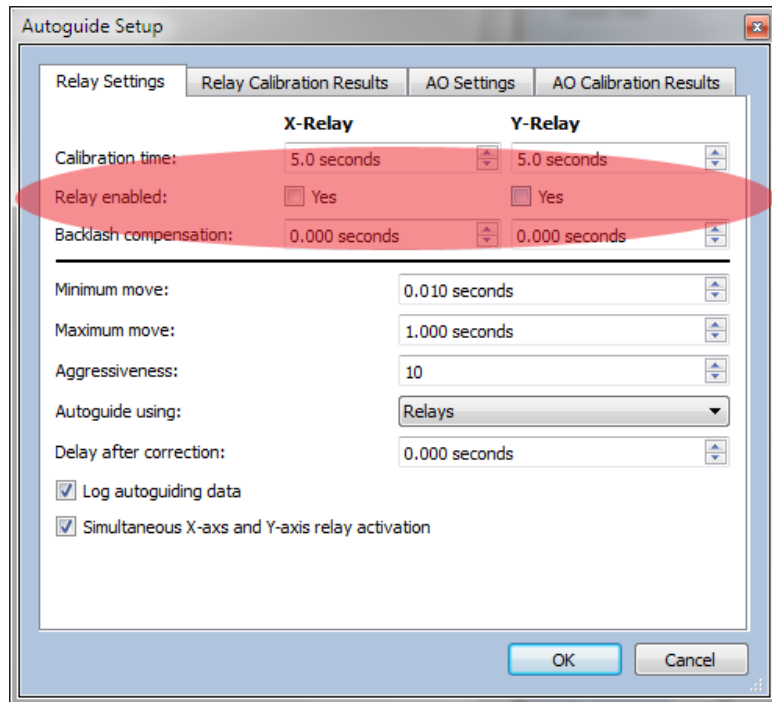

Figure 56: The *Relay* tab on the Camera Add On's *Autoguide Setup* window.
5. On the **Relay Settings** tab, turn off both **Yes** checkboxes for **Relay Enabled** in the **X-Axis** and **Y-Axis** columns (Figure 56). Turning these options off prevents the **Camera Add On** from making corrections to the position of the guide star.